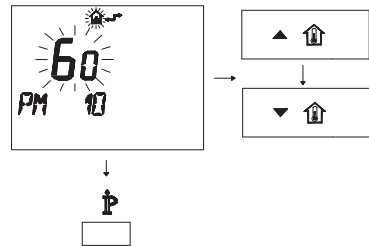

Fig. 7.42
- To modify the programmed SET, act on buttons  $\blacktriangle \uparrow$  or  $\blacktriangledown \uparrow$  and wait for the number programmed to flash (Fig. 7.42).